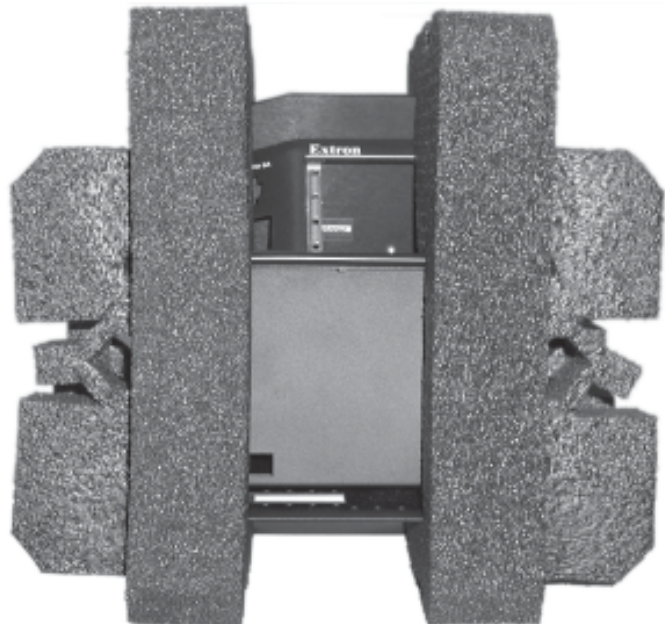

Figure B-6 — HSA suspended in the foam
9. Insert the opposite end of the clamshell into the remaining foam shell (figure B-6). Firmly push the foam shells together as far as they will go to completely suspend the HSA and clamshell. The sides of the clamshell protrude through slots in the foam.